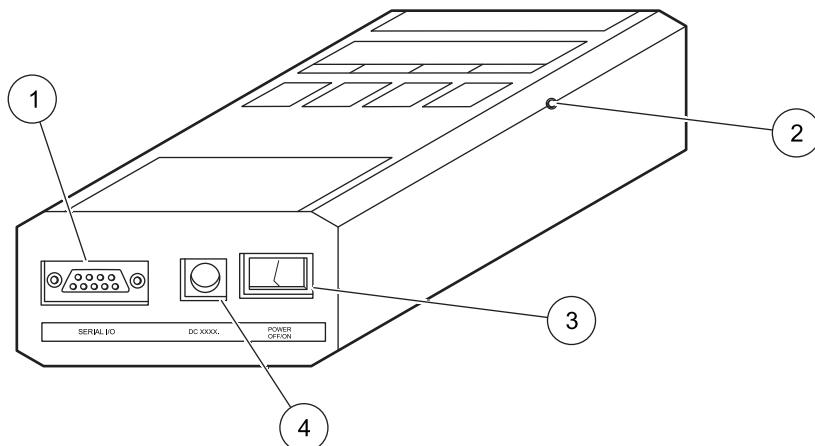
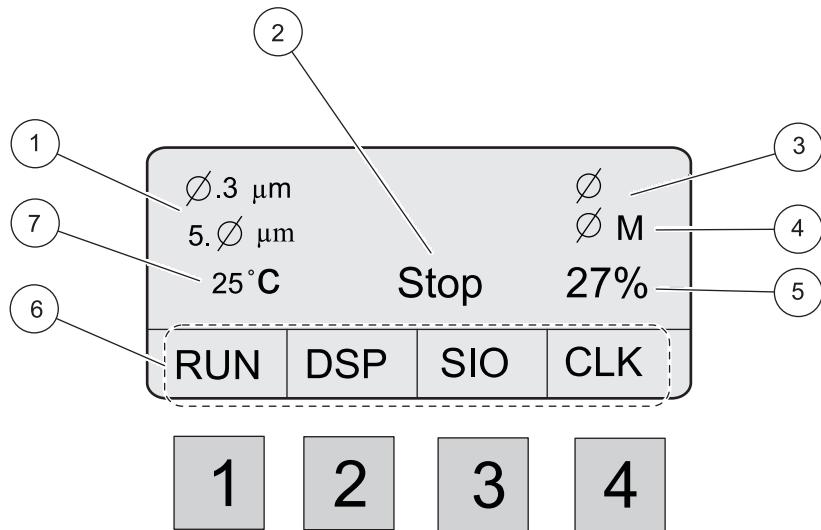

Figure 5 Connections and adjustments
Figure 6 LCD display
2. Attach the AC adapter to the power input jack (refer to Figure 5 on page 13) on the bottom of the MET ONE 227 particle counter.
The power and serial I/O connectors and the power switch are at the bottom of the counter. The brightness of the display may be adjusted for optimum performance in various ambient light conditions as shown in Figure 5.
Use the power switch at the bottom of the counter to turn on the MET ONE 227 particle counter (refer to Figure 5 on page 13, item 3). When first turned on, the counter will display the main screen (Figure 6 on page 16). The MET ONE 227 particle counter exhibits various counting modes. The factory default setting for the counting mode will be the Manual mode.
1. Press 1 on the front panel (refer to Figure 6). The pump will begin to operate. The count cycle status will change from "Stop" to "Wait" for two seconds while the pump reaches maximum speed.
The count cycle status (refer to Figure 6, item 2) will change to "Run" during the 1-minute sample and return to "Stop" at the end of the count cycle. The MET ONE 227 particle counter draws 0.1 cubic foot of air through the instrument. Multiply the results by ten to calculate the particle counts per cubic foot.